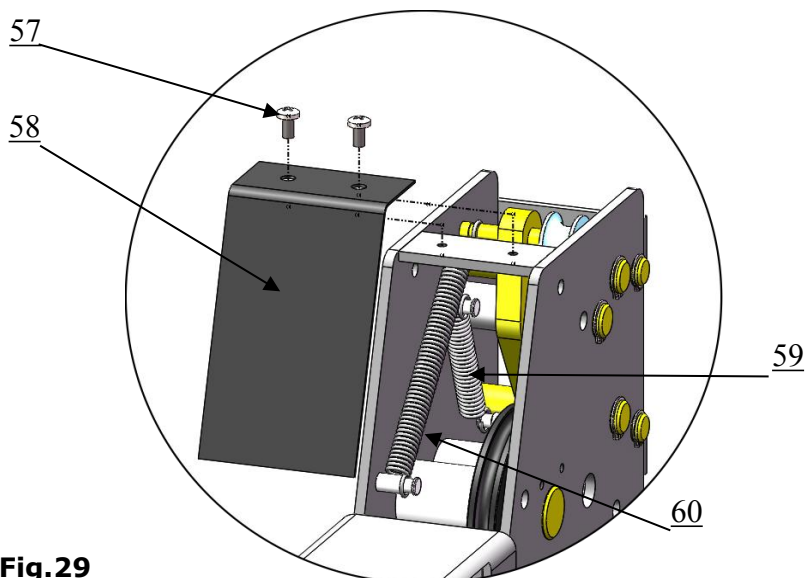

Fig.29
M. Install spring and safety cover of cross beam (See Fig. 29).